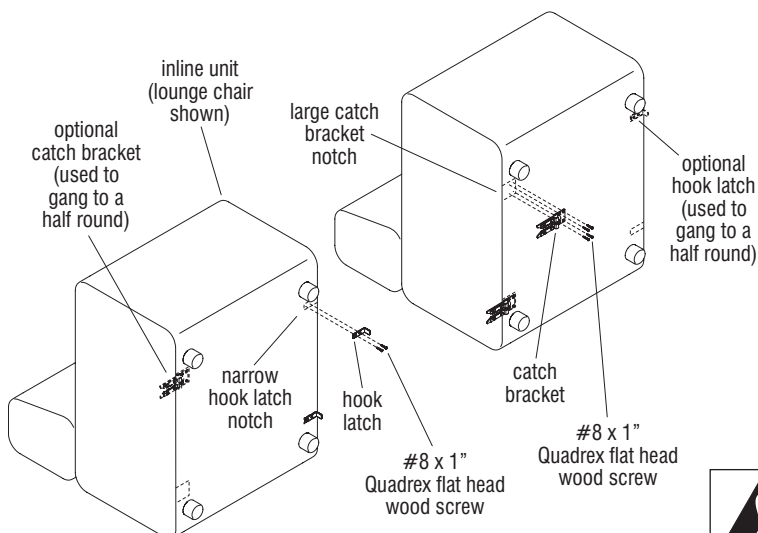

Figure 2
1. Carefully lay all inline units onto their backs or upside down, next to each other on a soft, protective surface (Figure 2).
2. At the underside, press along the left and right sides of the unit to locate the large catch bracket notches and narrow hook latch notches underneath the fabric (Figure 2).
3. With a catch bracket in hand, per your configuration, locate a larger notch under the fabric and nest the bracket into the notch as illustrated. Secure bracket to the underside of the unit using four #8 x 1" Quadrex flat head wood screws. Repeat this process to install the remaining catch brackets to the inline units in your configuration (Figure 2 & Detail A).
4. With a hook latch in hand, per your configuration, locate a smaller notch under the fabric and nest the latch into the notch as illustrated. Secure the latch to the underside of the unit using two #8 x 1" Quadrex flat head wood screws. Repeat this process to install the remaining hook latches to the inline units in your configuration (Figure 2 & Detail B).